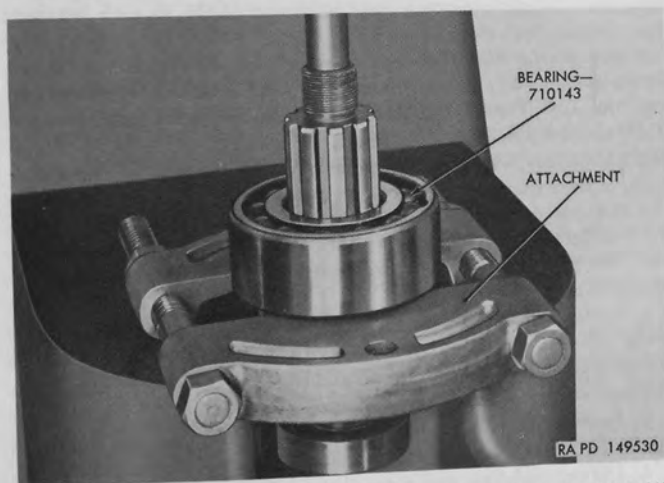

Figure 138. Removal of drive pinion outer bearing with attachment 41-A-345-328 (part of puller set 41-P-2905-60).
- (2) *Removal of pinion outer bearing.*—Install attachment 41-A-345-328 (part of puller 41-P-2905-60) onto drive pinion, then place in arbor press to press drive pinion (GG) out of bearing (fig. 138).